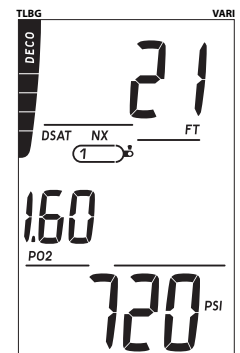

Fig. 73 - PO2 ALARM (while in Deco)
**High PO2, during Deco** (Fig. 73)